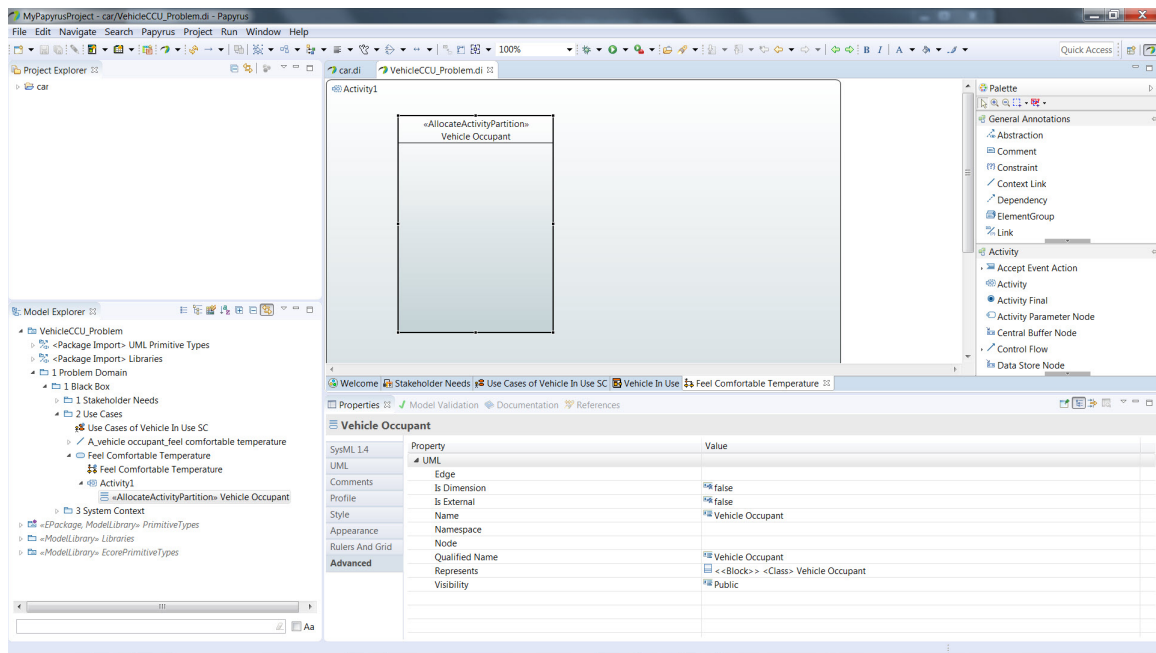

Figure 42: Vehicle Occupant Activity Partition in Activity Diagram
- Now we need to add the activity partition to our activity diagram. In the *Model Explorer* window Click on the *Vehicle Occupant* activity partition that we created in the previous step and drag it to the activity diagram in the main window. You can adjust the size of the partition to make it larger (figure 42).